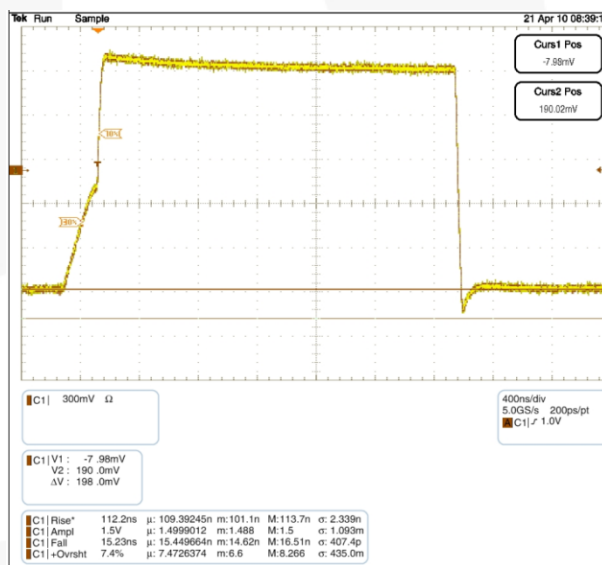

Figure 4. Waveform C: 600pF, Total RPU: 2.2KΩ
C = the bus capacitance. If the FXMAR2104 is attached to the master [on the A port] and there is a slave on the B port, the Npassgates act as a low resistive short between the ports until either of the port's $V_{CC}/2$ thresholds are reached. After the RC time constant has reached the $V_{CC}/2$ threshold of either port, the port's edge detector triggers both dynamic drivers to drive their respective ports in the LOW-to-HIGH (LH) direction, accelerating the rising edge. The resulting rise time resembles the scope shot in Figure 4. Effectively, two distinct slew rates appear in rise time. The first slew rate (slower) is the RC time constant of the bus. The second slew rate (much faster) is the dynamic driver accelerating the edge.